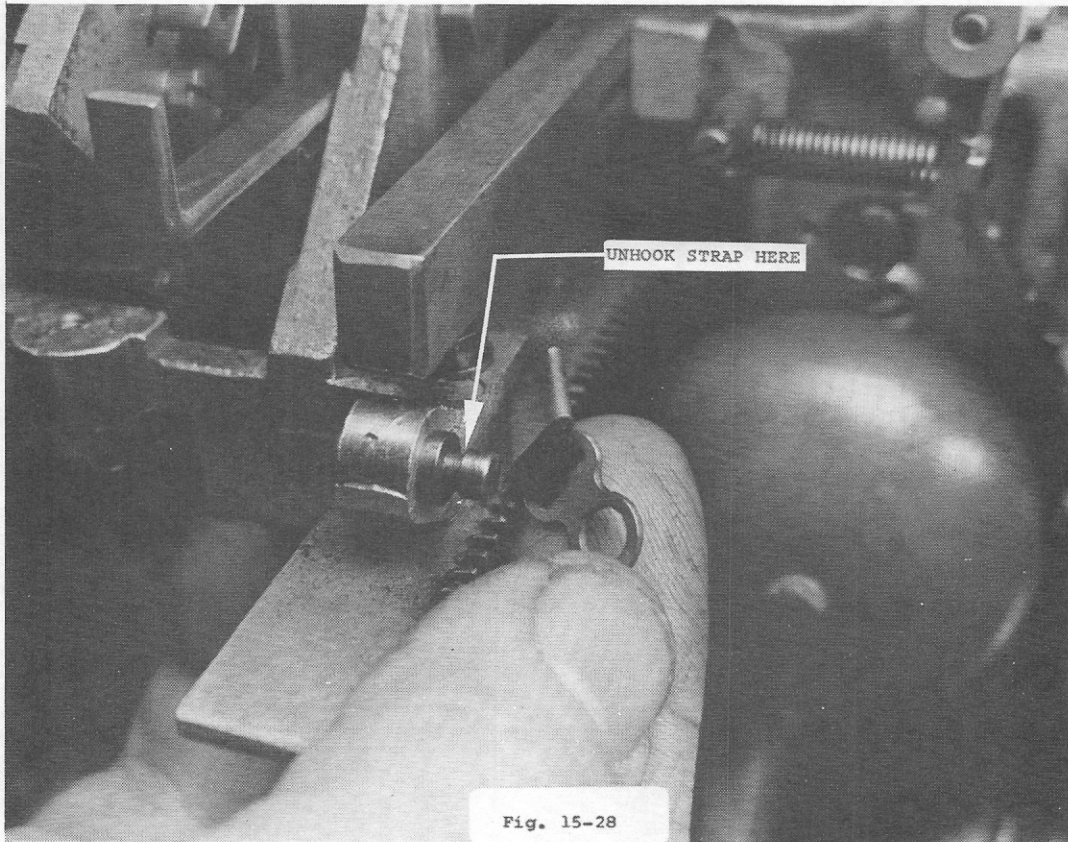

Fig. 15-28
- 2) Push the carriage unit about half way to the right, and hold it there. Fig. 15-28.
- 9) Unhook the other end of the strap and place it over a suitable anchor point. Fig. 15-28 and Fig. 15-29.